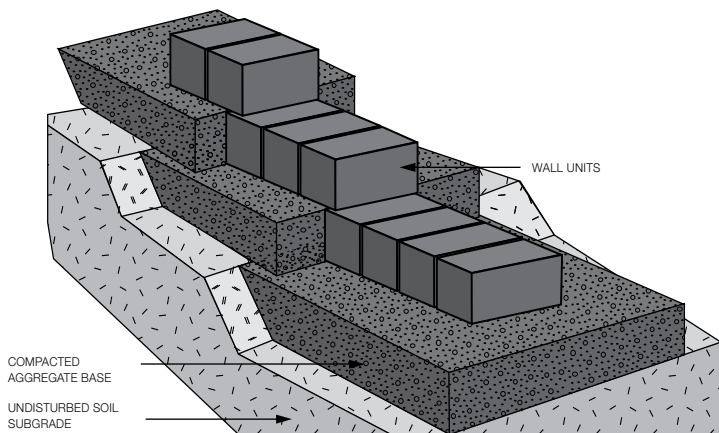

Figure 30. Stepped base for grade changes.
**Grade changes** - While preparing the base for walls and the grade changes, the excavation can be stopped so there is no need to bury more material than necessary (Figure 30). The step-up height is always equal to the height of the wall unit being used. Stepping the grade properly will save time and eliminate needless digging and reduce the amount of wall units required.